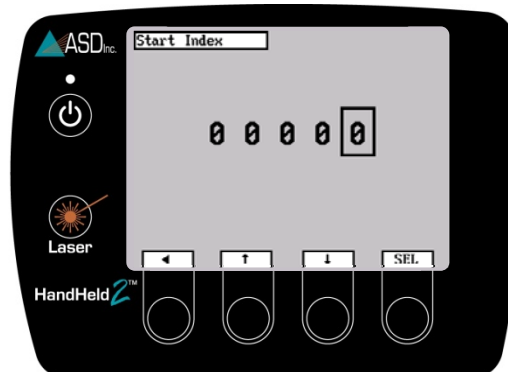

Figure 2-32: Start Index Number Adjustment
- Step 3 Press the arrow buttons to move to the desired number position (Figure 2-32).